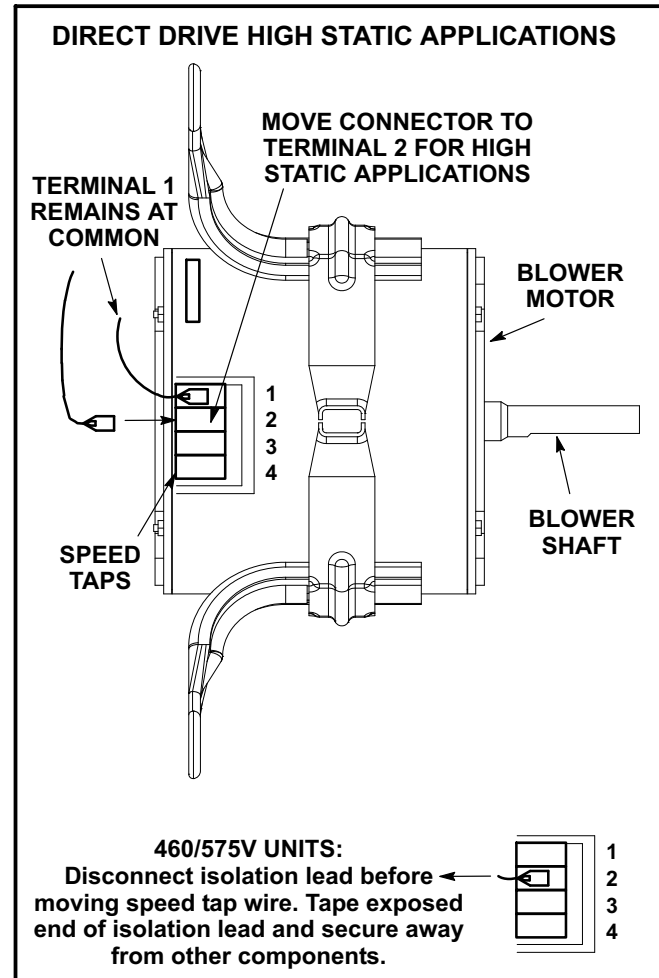

FIGURE 6
- 4- Use the blower tables starting on Page 9, the measured static pressure, and the factory-set blower speed to determine CFM. If CFM is lower than the design specified CFM, move the lead from speed tap 3 or 4 to speed tap 2. See figure 6.